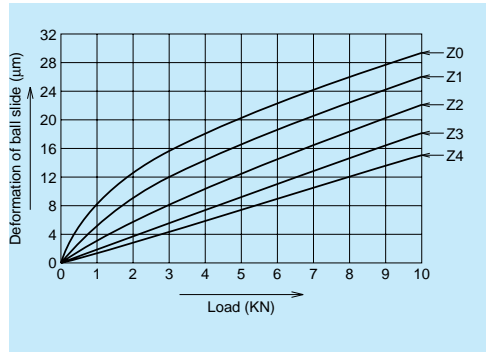

Fig. II-2-2 Rigidity of LY35, downward direction load (example)
- Fig. II-2-2 shows the relationship of ball slide deformation by external vertical load and preload. LY35 is used as a case.